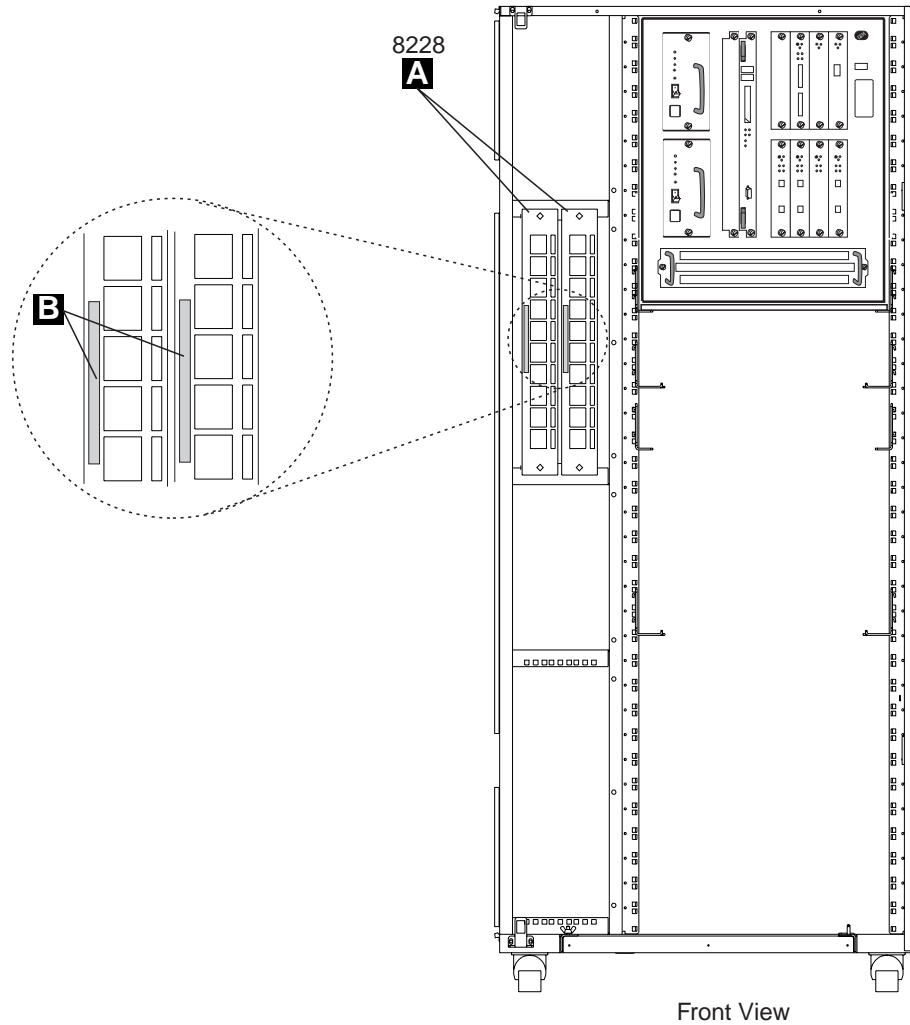

Figure 1-17. Installing the 8228 (Controller Expansion)
6. ____ Install the 8228s **A** in the controller expansion using two screws (PN 1621232) and two captive nuts (PN 58G5766) see Figure 1-17. Using label **B** (PN 782964), identify the 8228 as MAE Access Unit.